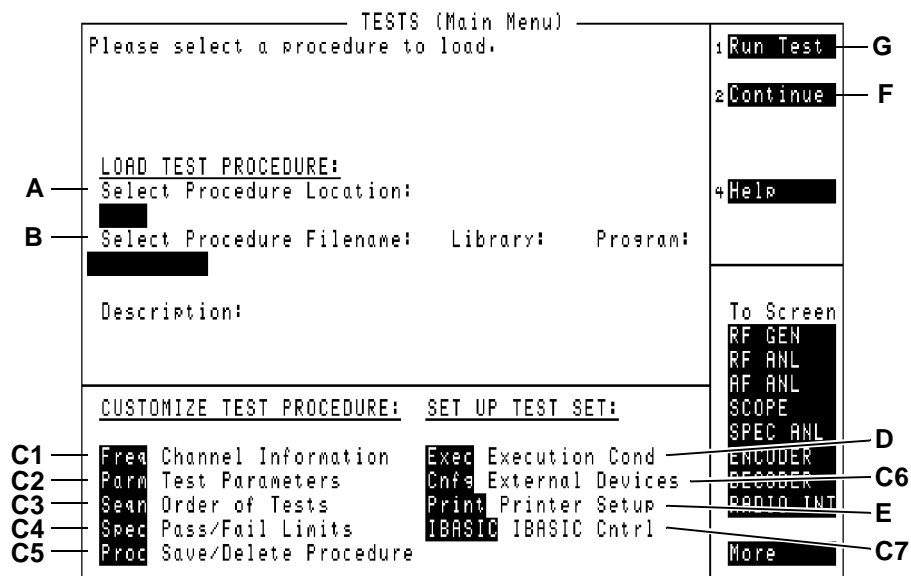
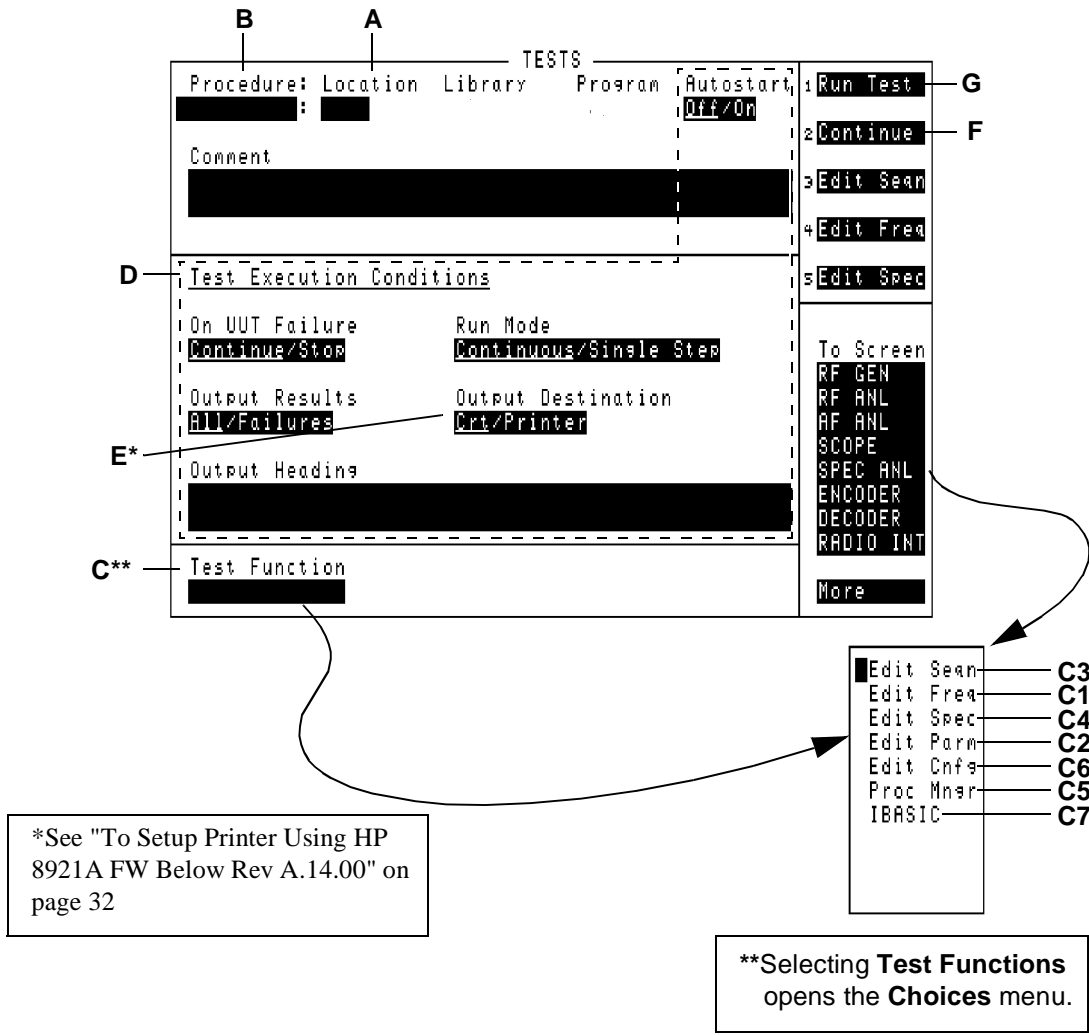

Figure 1 TESTS Main Menu for Firmware Revisions of A.14.00 and greater.
Figure 2 TESTS Main Menu for Firmware Revision Below A.14.00
The next two figures show the TESTS (Main Menu) screens for the latest TESTS menu (figure 1) and the TESTS menu used in older firmware revisions (figure 2). The illustrations are intended to help you find the corresponding functions if you are working with older firmware revisions.
2. Look for the selection description or name in figure 1 and note the corresponding letter.
3. Look for the same letter in figure 2 and note which field (or sub-menu) is used in the older firmware to access the screen or field.